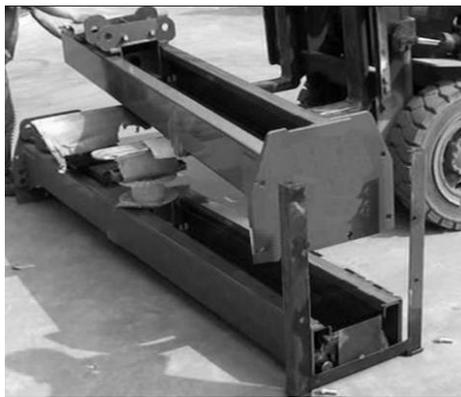

Fig. 10
4. Lift the upper column with a fork lift or hoist, loose the bolts of the upper package stand, take off the upper extension column, then take out the parts in the inner column **(See Fig. 10).**